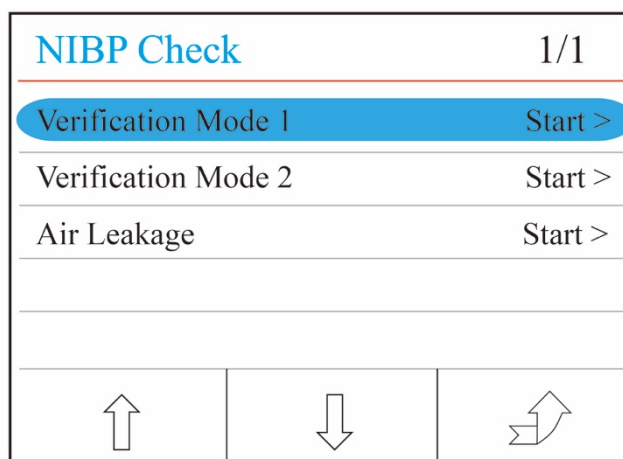

Figure 4.13 NIBP verification setup screen
- ✧ **"NIBP Check"**: press it to enter into NIBP verification setup screen, as shown in figure 4.13.